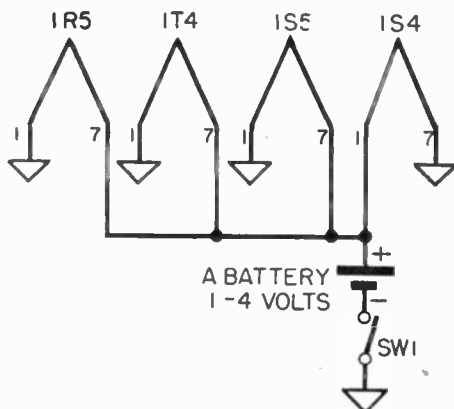

Fig. 8-4. Filament circuit.
a) *Heater Circuit.* See Figure 8-4.